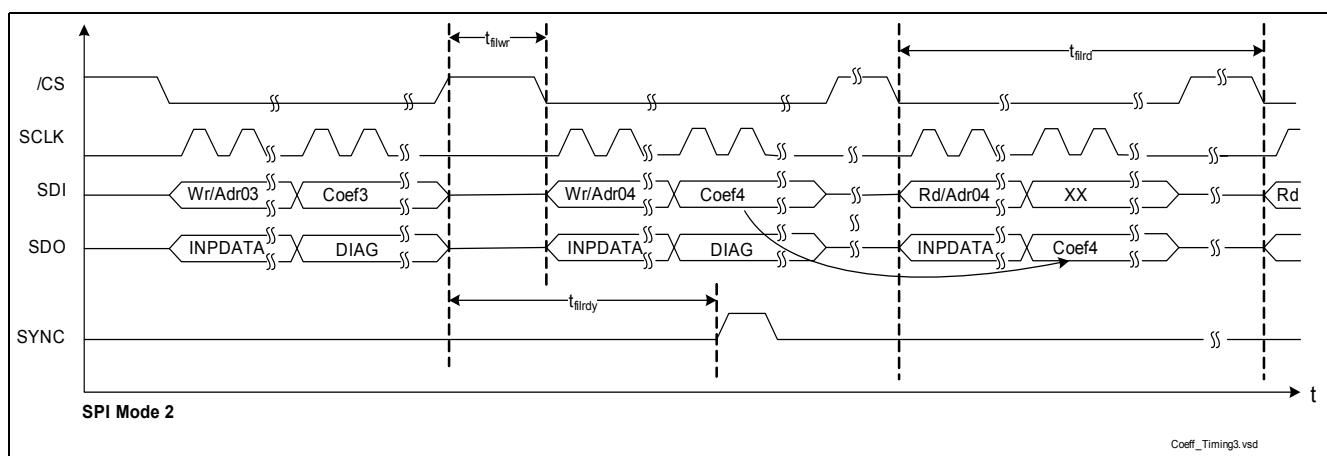

Figure 17 Filter Time Programming and Update Timing
**Figure 17** and **Table 17** describe the timing for changing filter-coefficients. Especially timing restrictions have to be obeyed implying a minimal processing time until the new configuration and the filtered data are valid and can e.g. be frozen with the pin SYNC. Changing the filter coefficients means resetting always the related filter.